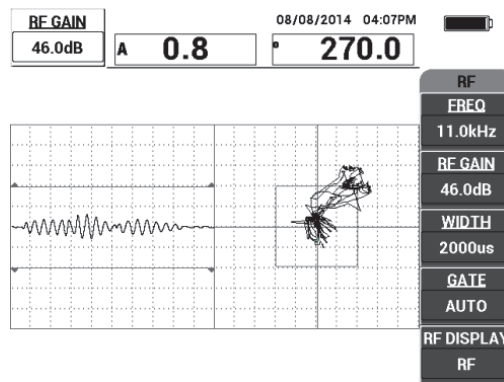

Figure 6-3 The GAIN adjustment to obtain a contained signal
2. Set the probe tips over a good area of the standard, adjust the gain using the **GAIN** key (**dB**), and then ensure that the signal in the RF view (left) is contained between 1 to 2 vertical divisions (see Figure 6-3 on page 132).